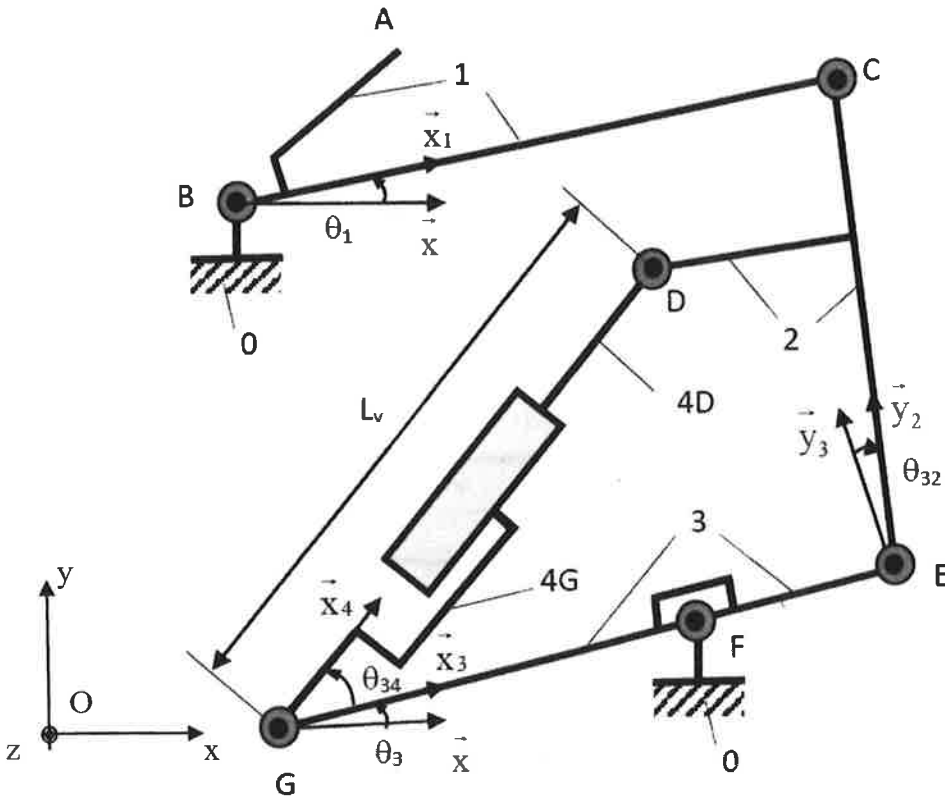

Figure 4. Kinematic model
In this section (part D), solid 6 is absent. The objective is to analyse the kinematics of the clamping system composed of the three levers (1), (2), (3), the jack (4D et 4G) and the ground (0). Jack (4) is considered as made of two parts: the upper part (4D) that includes point D and the lower part (4G) including point G (Figure 4). (4D) and (4G) are connected by a prismatic joint. All the parts are non-deformable (rigid).
The following unit vectors are defined (see Figure 4):